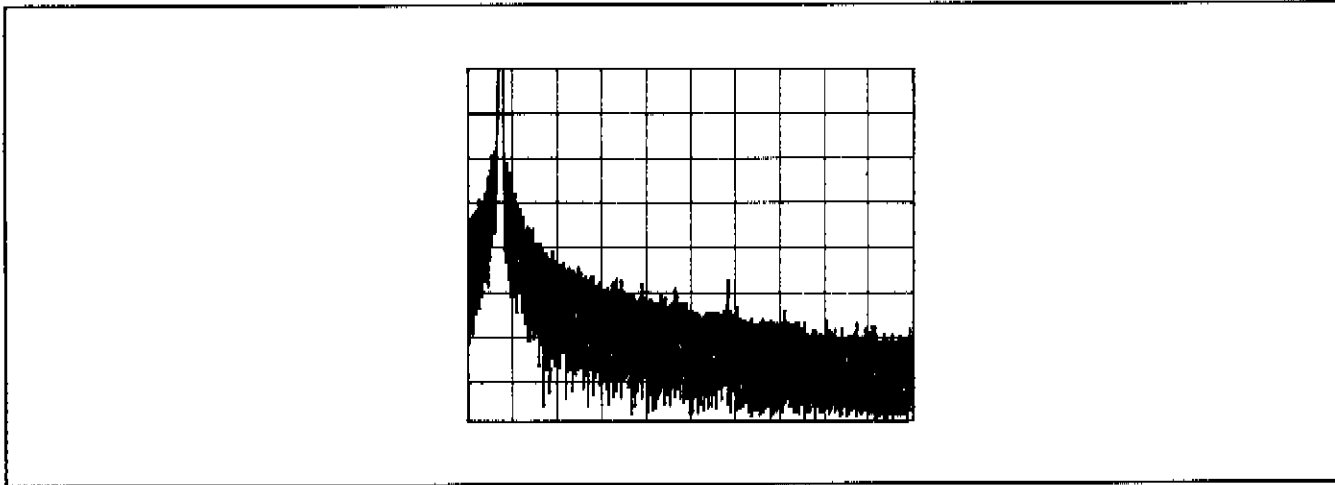

Figure 4-12. Spurious Test Spectrum Analyzer Display (321.8 MHz, 50 kHz/Division, 1 kHz Bandwidth)
4. Set the Generator's frequency to 320.0 MHz and amplitude to 0.0 dBm. Set the spectrum analyzer's input attenuator to the minimum attenuation allowable with a 0 dBm input signal. Adjust the tuning so the signal is centered on the second vertical graticule line from the left of the screen. Use 50 kHz resolution and 1 kHz bandwidth settings. Set the reference level to -40 dBm. The display should be as shown in Figure 4-12.